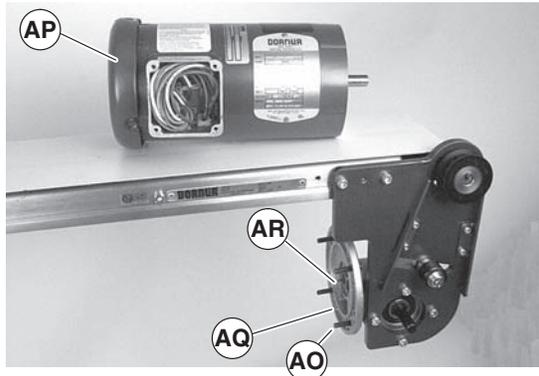

Figure 33
- Remove four screws (Figure 33, item AO). Detach motor (AP) from gear reducer (AQ). Retain motor output shaft key (AR).